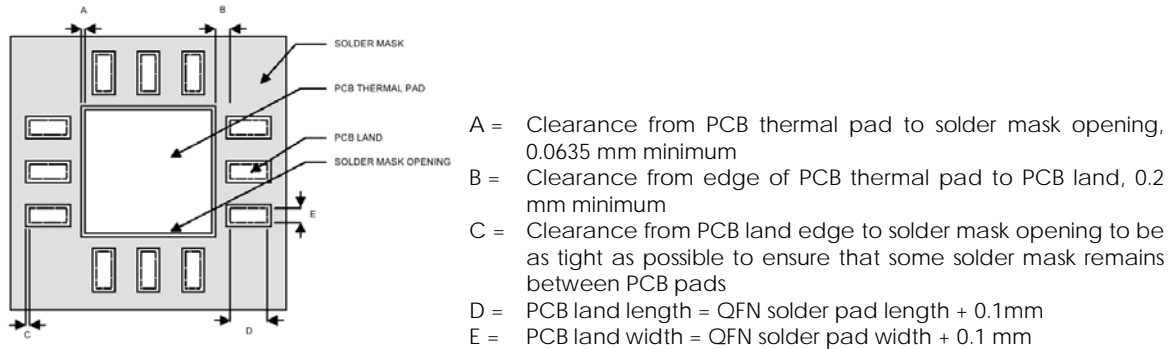

Figure 11 PCB land and solder mask recommendations
1. PCB land and solder masking recommendations are shown in Figure 11.